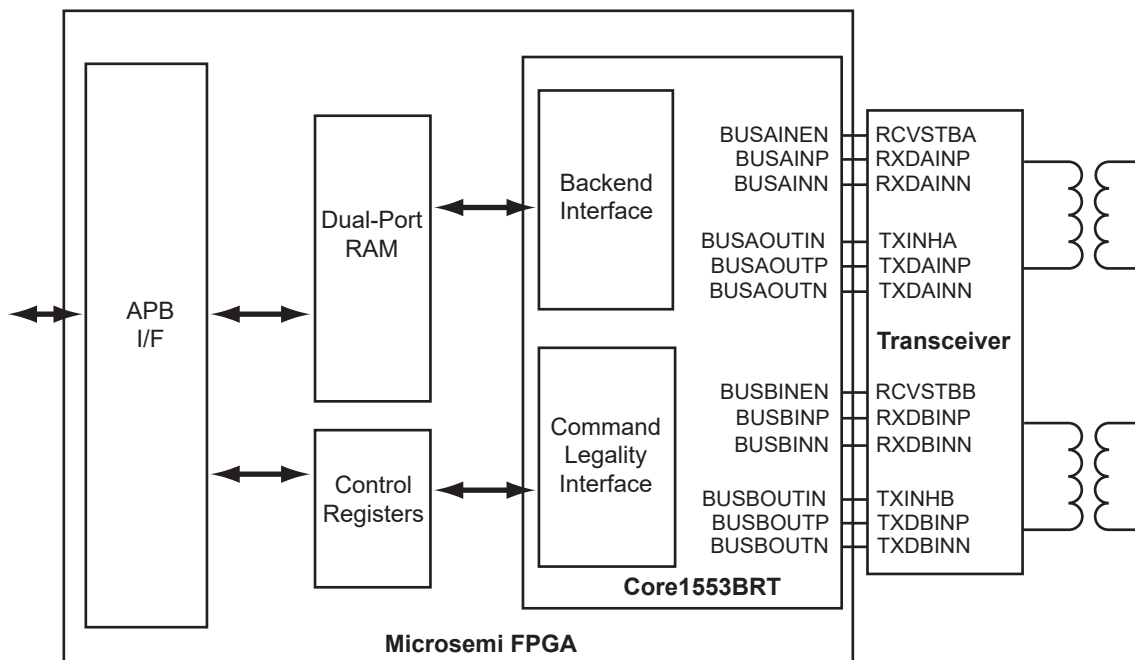
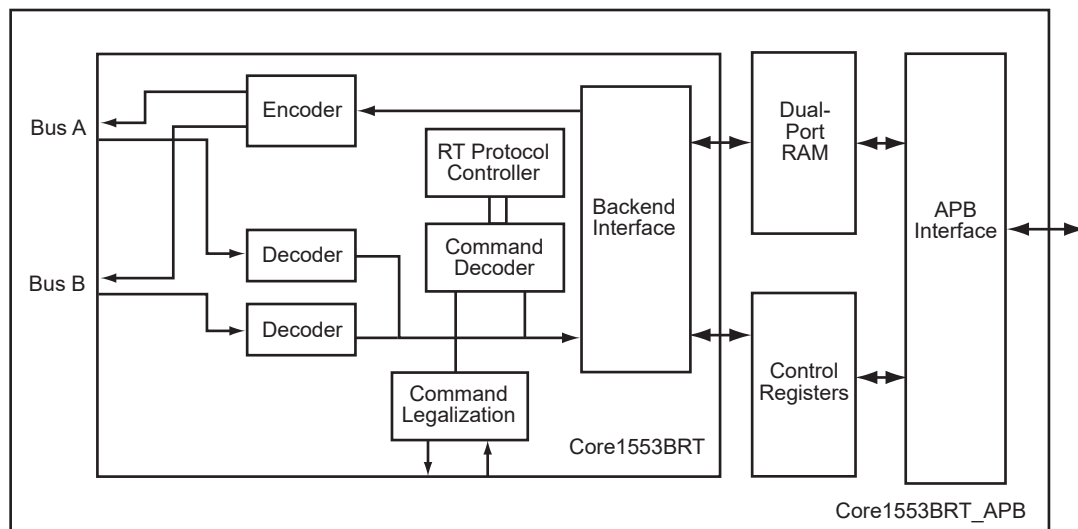

Figure 1-1 • Typical Core1553BRT_APB System
Figure 1-2 • Remote Terminal Block Diagram
Core1553BRT_APB provides a complete, dual-redundant MIL-STD-1553B remote terminal (RT), apart from the transceivers required to interface to the bus. A typical system implementation using Core1553BRT_APB is shown in Figure 1-1 and Figure 1-2 on page 6.
The core consists of six main blocks: 1553B encoder, 1553B decoders, the APB interface, a command decoder, RT controller blocks, and a command legalization block (Figure 1-2 on page 6).